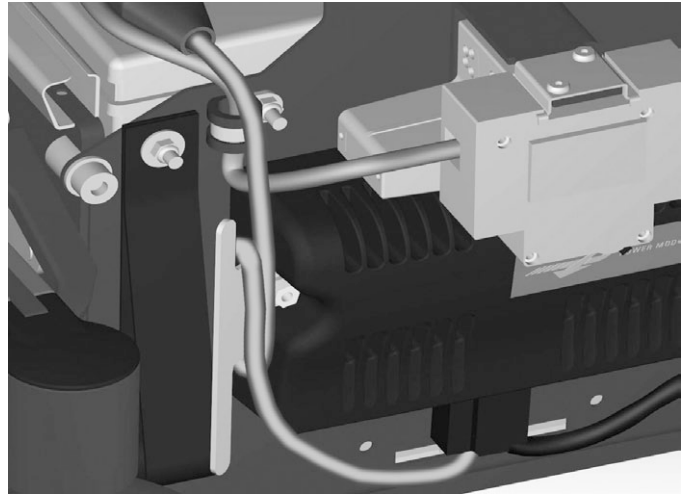

Figure 152. The cable holder is attached with a nut.
4. Remove the nut holding the cable holder. See fig. 152.
1. Position the cable holder on the left attachment screw of the Power Module. See fig. 152.
2. Wrap the cable connected to the left battery pole of the rear battery one turn around the cable holder. See fig. 152.